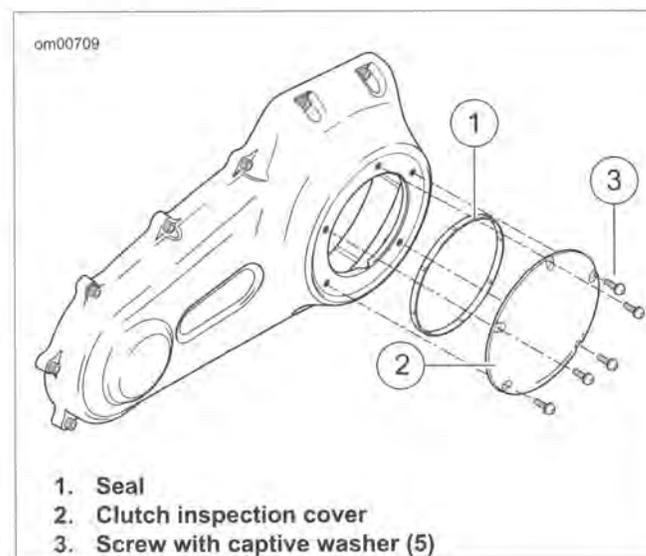
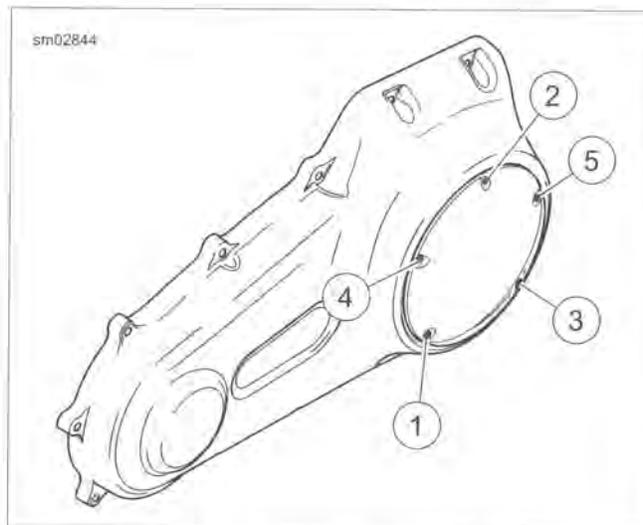

Figure 1-13. Clutch Cover
Figure 1-14. Clutch Cover Torque Sequence
7. See Figure 1-13. Remove screws with captive washers (3) and clutch inspection cover (2).
8. Remove seal (1). Wipe oil from groove in chaincase cover and mounting surface.
- b. See Figure 1-13, Position **new** seal (1) in groove in clutch inspection cover. Press each of the nubs on seal into the groove.
- c. Secure inspection cover with screws with captive washers (3).
- d. See Figure 1-14, Tighten in sequence shown to 84-108 **in-lbs** (9.5-12.2 Nm).
- See Figure 1-14. Secure clutch inspection cover. Tighten screws in sequence to 84-108 in-lbs (9.5-12.2 Nm).